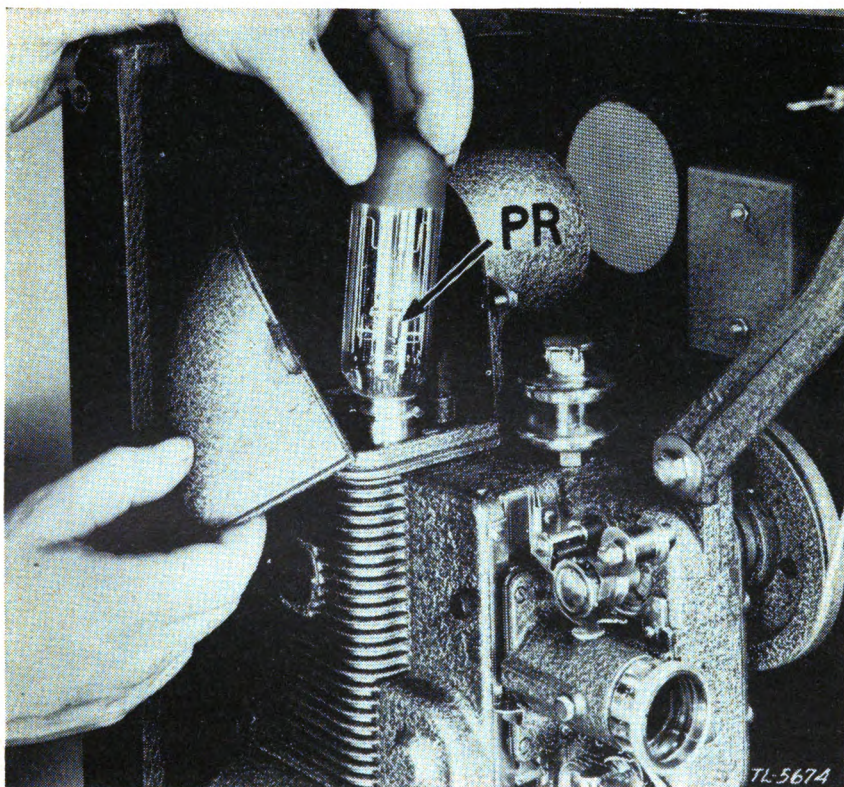

FIGURE 62.—Removing Phonofilm projector lamp.
*b. Phonofilm.*—Use the same procedure as in *a* above in replacing lamps in the Phonofilm. (See figs. 62 and 63.)